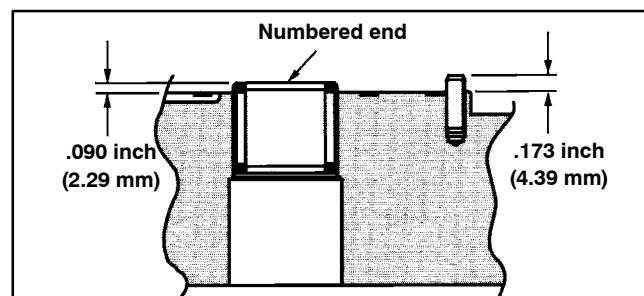

Figure 58
A. Check the bearing (45) (press fit) in backplate (20). If needles remain in cage, move freely, and setting is at the dimension shown in Figure 58, bearing removal is not required.
B. Check roll pin (38) in backplate (20). If tight and set to the dimension shown in Figure 58, removal not required.
5. Install new seal washer (4), washer (29), and jam nut (1) to servo piston bolt. Holding servo piston bolt with hex key wrench, torque jam nut from 150 to 160 in-lb (17 to 18 N-m). Check the centering of servo piston assembly (7). Install new cover plate gasket (33) and cover plate (9) to open side of servo piston and retain with four washers (31) and socket head screws (5). Torque screws from 40 to 48 in-lb (4.5 to 5.4 N-m).
6. Press dowel bushings (40) into cradle and secure bushing (44) onto cradle with button head cap screw (43). Torque button head cap screw from 14 to 16 in-lb (1.6 to 1.8 N-m).
7. Place cradle sub-assembly (41) into housing (19) making sure dowel bushings (40) and cradle (41) are completely seated into housing. Retain cradle sub-assembly with two cap screws (42) after applying Loctite #277 (or equivalent) to the end of threads. Torque cap screws from 25 to 28 ft-lb (34 to 38 N-m).
8. Place exterior retaining ring (3), thrust race (12), thrust bearing (13), second thrust race (12), and second retaining ring (3) onto drive shaft (21). Position washer (24) and shaft seal (25) onto shaft.
9. Install shaft assembly into front of housing. Seat seal (25) into position with seal driver and retain with interior retaining ring (2).
10. Install servo piston follower (8) onto camplate dowel pin. Install camplate (11) carefully onto bushing (44) (coat bushing surface with hydraulic oil), aligning servo piston follower (8) with slot in servo piston assembly (7).
11. Position housing in a horizontal position. Holding camplate (11) in position with screw driver through controller linkage passageway at the top of housing, place rotating kit assembly (6) over shaft and into housing until pistons are against camplate (11). Make sure all parts are in housing completely and are properly positioned. Return the pump to the vise with open end of housing up, clamping housing on the outer portion of the flange.
12. Install gasket (32) onto housing.
13. If necessary, press new bearing (45) and roll pin (38) in backplate (20) to dimension shown in Figure 58. Note: Bearing should be installed with the numbered end outward. Roll pin should be installed with split oriented away from bearing.
15. Install new o-ring on bypass valve (14). Install bypass valve (14) into backplate (20). Note: Make sure paddle of bypass valve is perpendicular to relief valve axis prior to installing or damage could result.
16. Apply a small amount of petroleum jelly to the steel side of valve plate (18) to hold in place for installation. Aligning the index pin, place the valve plate (18) in position onto the backplate (20), with steel side against backplate.
17. Install backplate assembly (20) onto housing assembly (19). Make sure ports are positioned correctly, and that valve plate (18) and gasket (32) stay in place.
18. Retain backplate (20) with four cap screws (15). Torque cap screws from 27 to 31 ft-lb (37 to 42 N-m).
19. Install control housing gasket (34) onto housing. Install orifices (30) into servo control assembly (28) and retain in position with petroleum jelly. Position the feed-back link at 90 degrees from control housing. Install manual servo control assembly (28) onto housing making sure feedback link entered small groove in servo piston assembly (7).
20. Secure control assembly with six socket head screws (17). Torque screws from 40 to 48 in-lb (4.5 to 5.4 N-m).
21. Install control arm (27) onto control assembly input shaft. Retain with lock washer (23) and nut (22). Torque nut from 4 to 6 ft-lb (5 to 8 N-m).